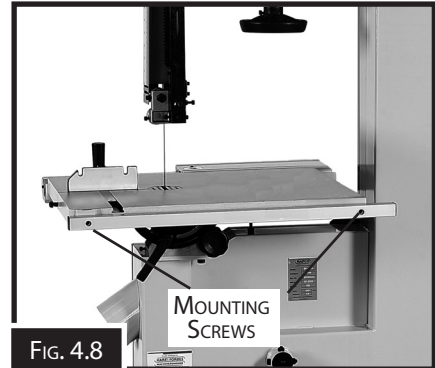

FIG. 4.8
1. Attach the back support square tube to the back of the table with the two M6 x 16 socket head cap screws, making sure that the rail is parallel to the table. (Fig. 4.8)